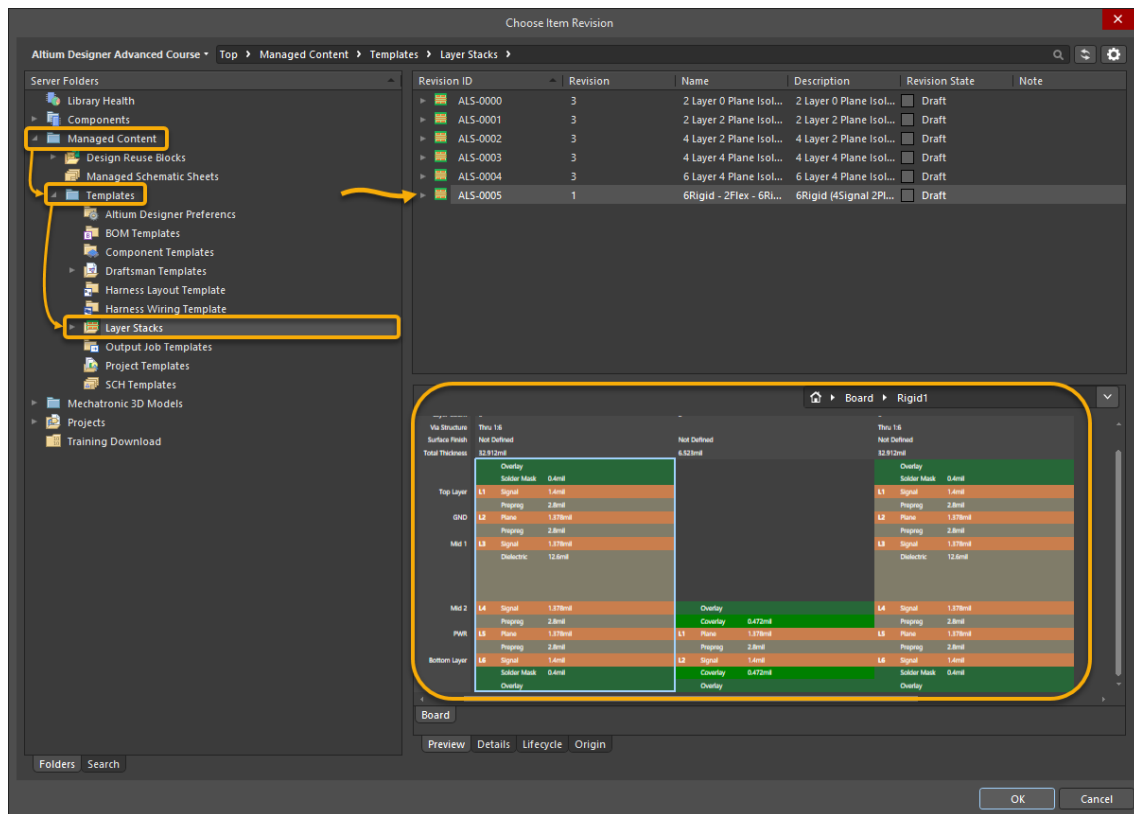

Figure 3. Select the Rigid-Flex Stack
14. Select the stack 6Rigid - 2Flex - 6Rigid, Figure 3.